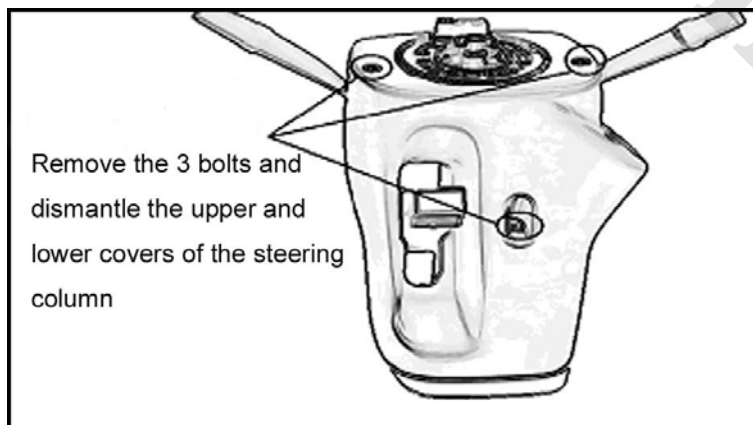

Fig. 2-29
9) Remove the lower cap of the steering column. Remove the three bolts, the upper & lower caps of the steering column, as shown in Fig. 2-29.